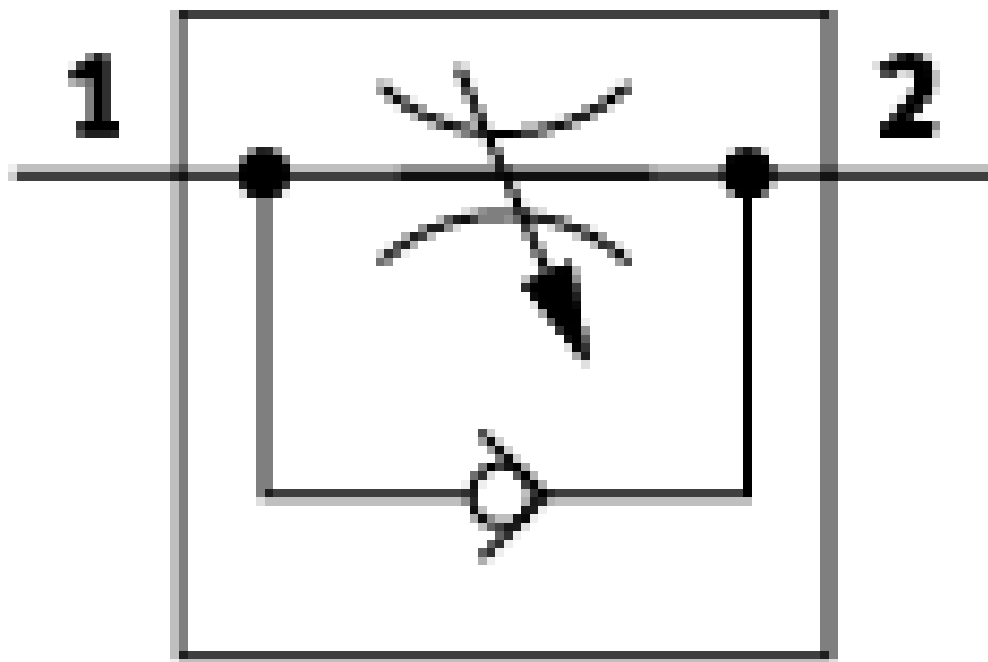

Figure 2.22: The main workspace of FluidSIM, showing the Component Library, Drawing Area, and Toolbar.
**2. The Main Workspace** When you open FluidSIM, the screen is divided into three main areas, as shown in Figure 2.22.